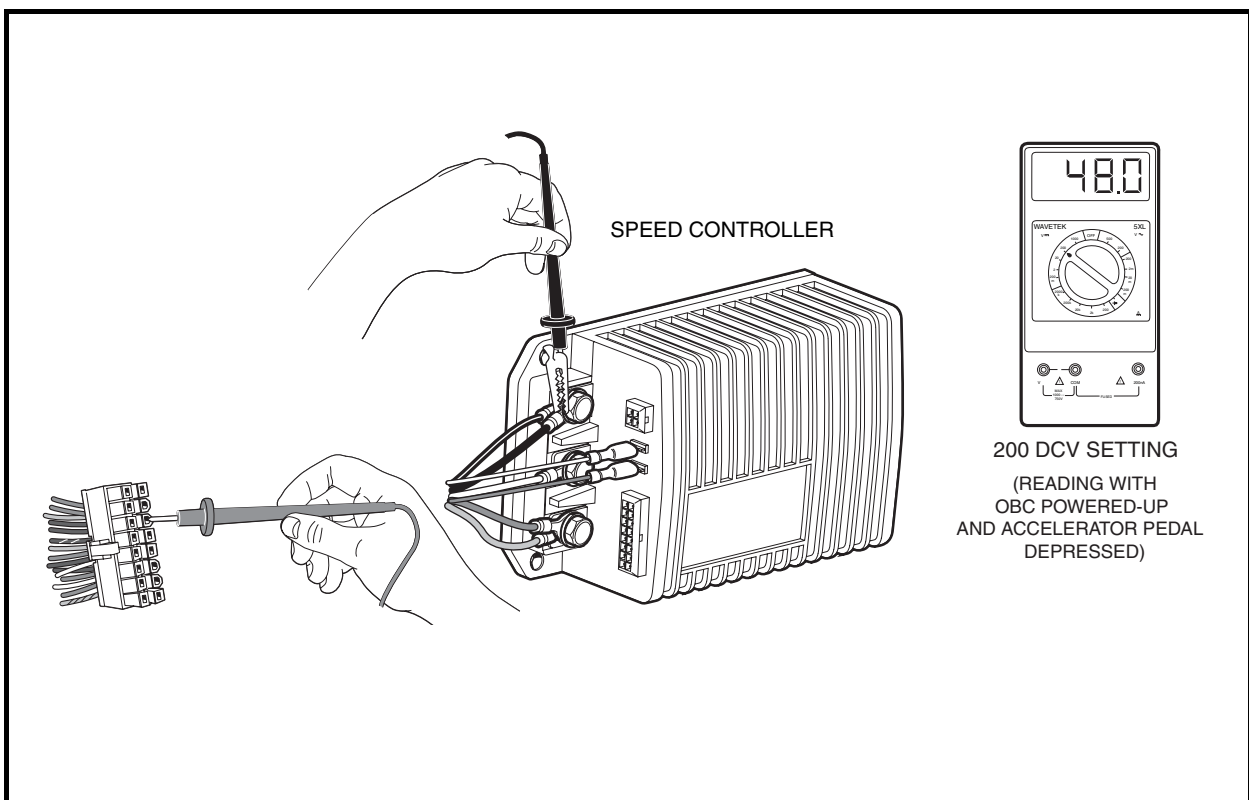

Figure 11-13 Pin 6 Test
4. Set a multimeter to 200 volts DC, insert the red (+) probe of the multimeter into pin 6 (green wire) of the 16-pin connector. **See following CAUTION.** Using an alligator clip, connect the black (–) probe to the B–terminal of the speed controller (**Figure 11-13, Page 11-25**).